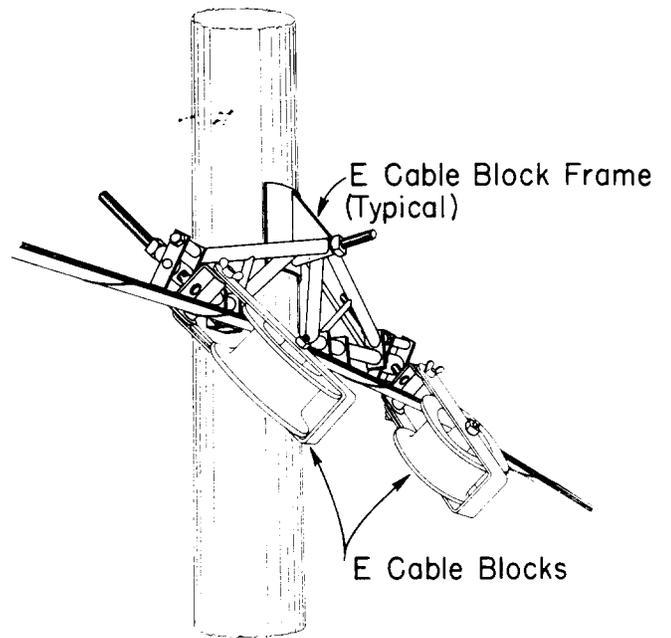

Fig. 11—E Cable Block Frame (With E Cable Block Installed)
6.05 A typical *E cable block frame* (Fig. 11) is used at inside corners where the pull is greater than 8 feet but does not exceed 50 feet. The frame construction may be welded steel tubing as shown or aluminum alloy casting.